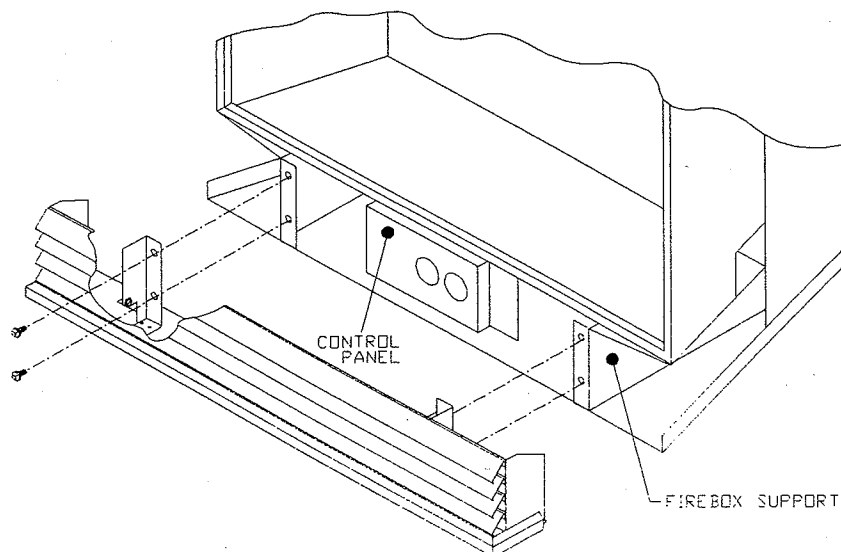

Figure 13
4. Secure the lower grille assembly with the four screws that were previously removed (see Figure 13).